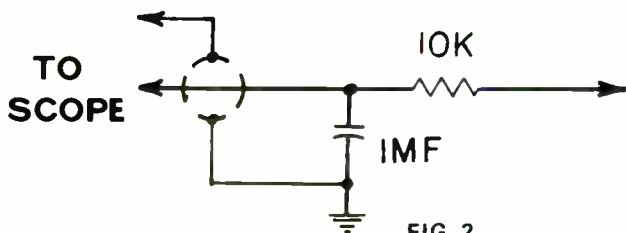

FIG. 2
5. Connect oscilloscope through Figure 2 to TP4. Adjust Bottom slug of T104 for straightest crossover line. (See Figure 3).